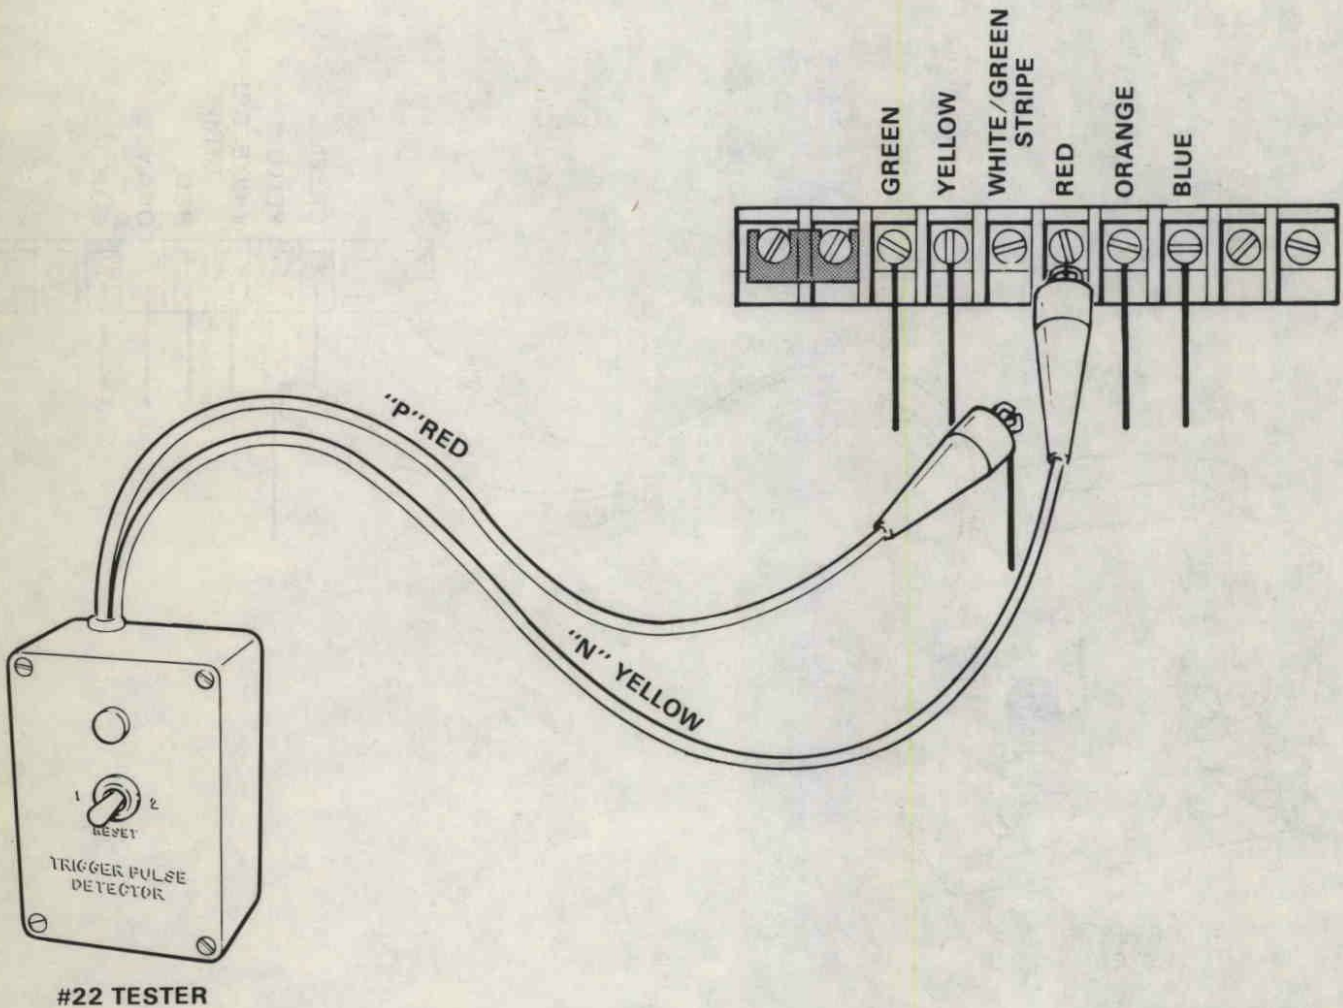

Figure 7
2. Connect "P" lead (red) of #22 Tester to white/green wire, Figure 7.
3. Connect "N" lead (yellow) of #22 Tester to red wire terminal on terminal block, Figure 7.